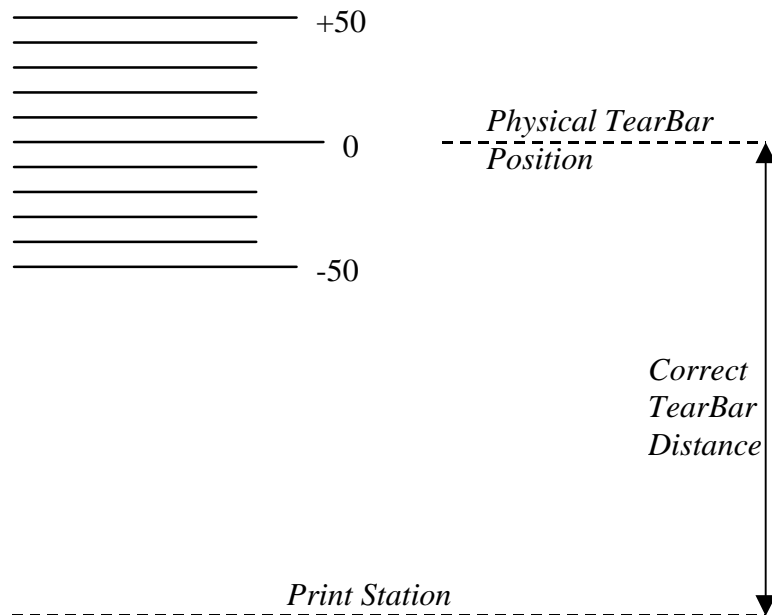

Figure 33. Correct Tear Bar Distance
8. Press **ENTER** to select the desired value. An asterisk appears next the selected value and a scale prints to indicate the tear bar distance in relation to the tear bar. For correct tear bar distance, the zero should align with the tear bar. See Figure 33.